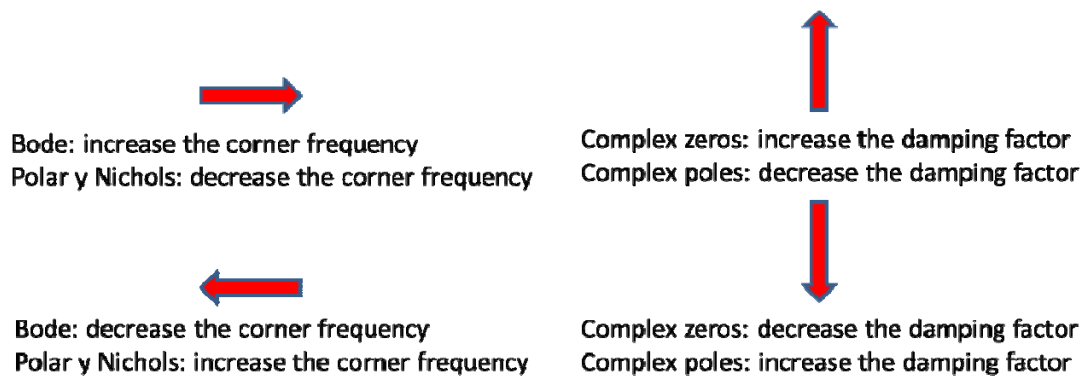

Figure 18. Meaning of the displacements in bode magnitude diagram, polar diagram, and Nichols diagram
dragged horizontally to the left (or to the right). Figure 18 shows the meaning of the displacements in bode diagram, polar diagram, and Nichols diagram.
- Damping ratio δ of a pair of complex poles or zeros. To configure the damping ratio of a pair of complex poles ('x') or zeros ('o') in the bode magnitude plot, the user has to locate the mouse pointer on the interactive element, and drag vertically upward or downward (see Figure 18).